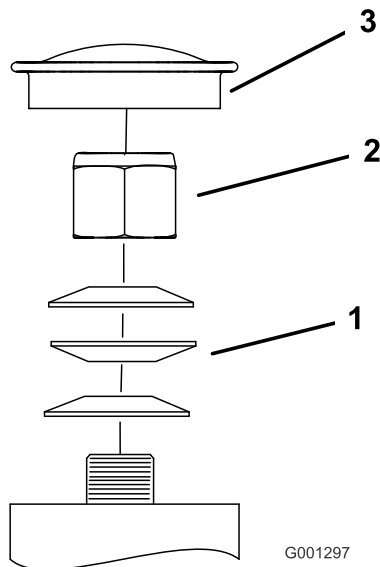

Figure 52
3. Remove the dust cap from caster and tighten the locknut (Figure 52).
4. Tighten the locknut until the spring washers are flat and then back off a 1/4 turn to properly set the pre-load on the bearings (Figure 52).
Important: Make sure spring washers are installed correctly as shown in Figure 52.
5. Install the dust cap (Figure 52).